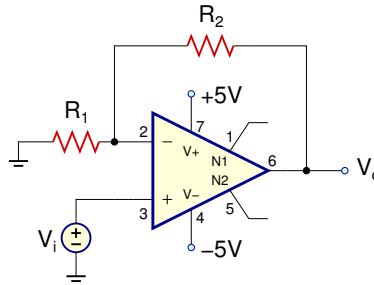

Figure 5: Non-inverting amplifier configuration
Assuming a finite GBW of  $\omega_t$ , the frequency dependent gain of the non-inverting amplifier shown in Fig. 5 is given by
1. For the non-inverting amplifier in Fig. 5, assume  $R_1 = 1k\Omega$ . Find the values of  $R_2$  to set the low-frequency gain to 23, 57, and 83.
1. Draw the schematics for the non-inverting amplifier in Fig. 5.
1. Build the non-inverting amplifier in Fig. 5 with  $R_1 = 1k\Omega$  and  $R_2$  corresponding to the gain of 23.
6. For the non-inverting amplifier in Fig. 5: